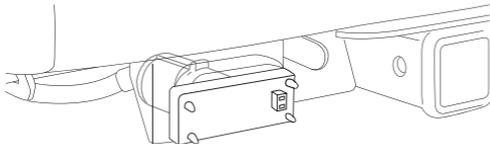

Fig.1
2. Match the orientation and plug in the adapter generally. (Fig.1)